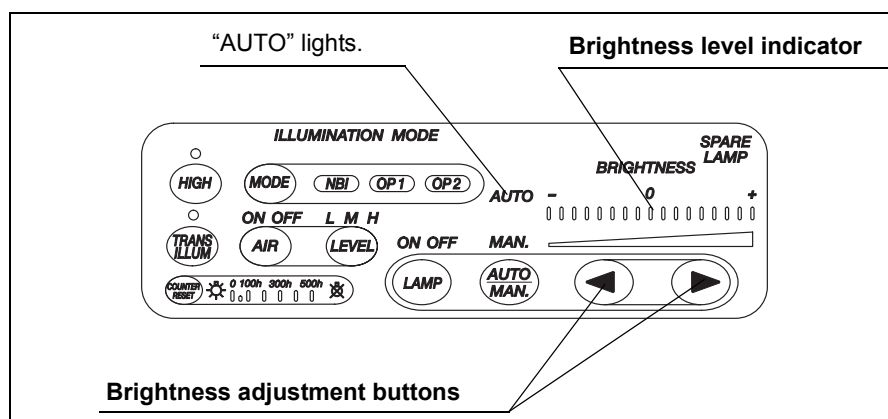

Figure 3.9
3. Hold the distal end of the endoscope at a distance between 30 and 40 mm to the object and press the brightness adjustment buttons ("◀" or "▶"). Confirm the following (see Figure 3.9):